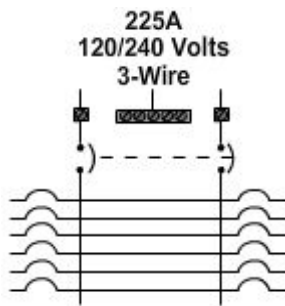

Figure 8-33 – Typical arrangement that shows NEC® rules for lighting panelboards.
2. A lighting and appliance branch-circuit panelboard is limited to no more than 42 overcurrent devices (excluding the main overcurrent devices) in any one cabinet or cutout box (Figure 8-33). When such devices are numbered, a single-pole circuit breaker counts as one overcurrent device, a two-pole circuit breaker as two overcurrent devices, and a three-pole circuit breaker as three overcurrent devices.